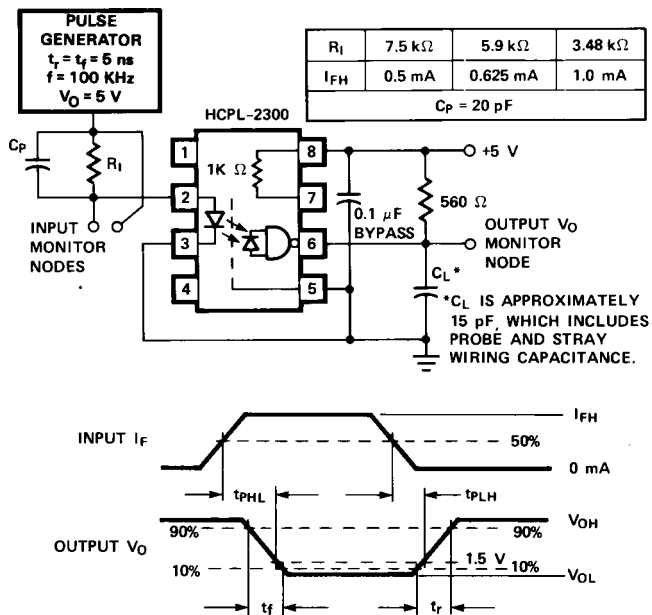

Figure 8. Test Circuit for t_{PHL} , t_{PLH} , t_r , and t_f .
- C_{P} is the peaking capacitance. Refer to test circuit in Figure 8.